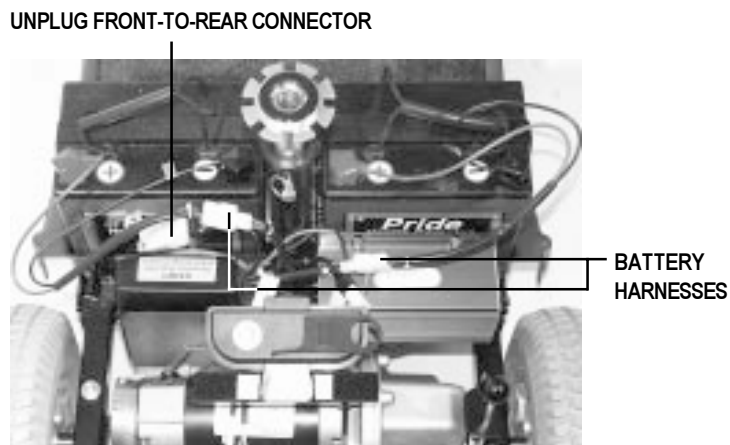

Figure 13. Disassemble Rear Connections
5. Unplug both battery harnesses. See figure 13.
7. Unplug the large, white, 9-pin front-to-rear connector that attaches the front control console assembly harness to the electronic controller module harness. See figure 13.